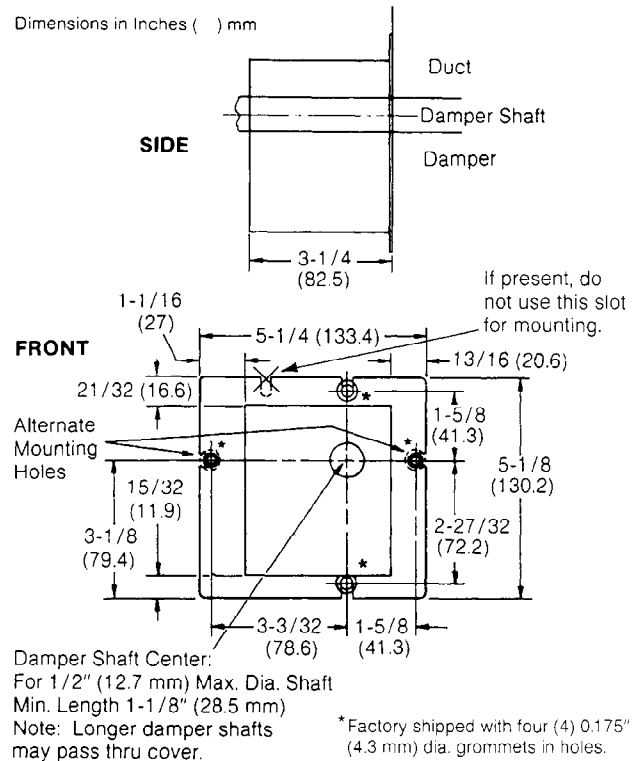

Figure 3. Mounting Dimensions
Direct Mounting (See Figure 3)
4. Drill (2) two 1/8" (3.1 mm) dia. pilot holes through the duct using the actuator grommet centers as a template. An alternate method to locate the pilot holes is to refer to the Mounting Dimensions, Figure 3.
6. Tighten the (2) two set screws on the damper shaft using standard 1/8" right angle Allen wrench (see Figure 3). The hollow actuator shaft also has (2) two keyways sized for a 1/8" (3.1 mm) wide key projecting 1/16" (1.5 mm) from the damper shaft. The keyways are located on left and right side of actuator shaft when the actuator is upright and in the CCW end of rotation.